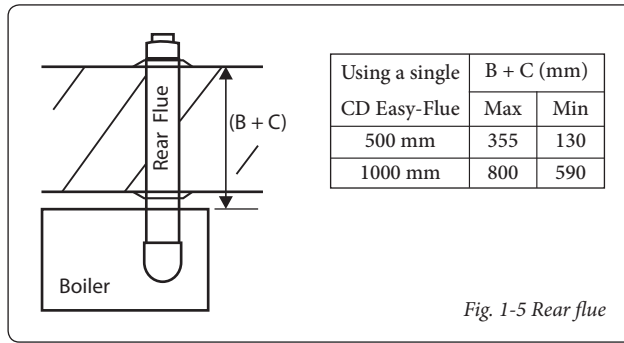

Fig. 1-5 Rear flue
- The CD Easy-Flues are suitable for use in the flue length ranges shown in the tables in Figs 1-5 and 1-6.